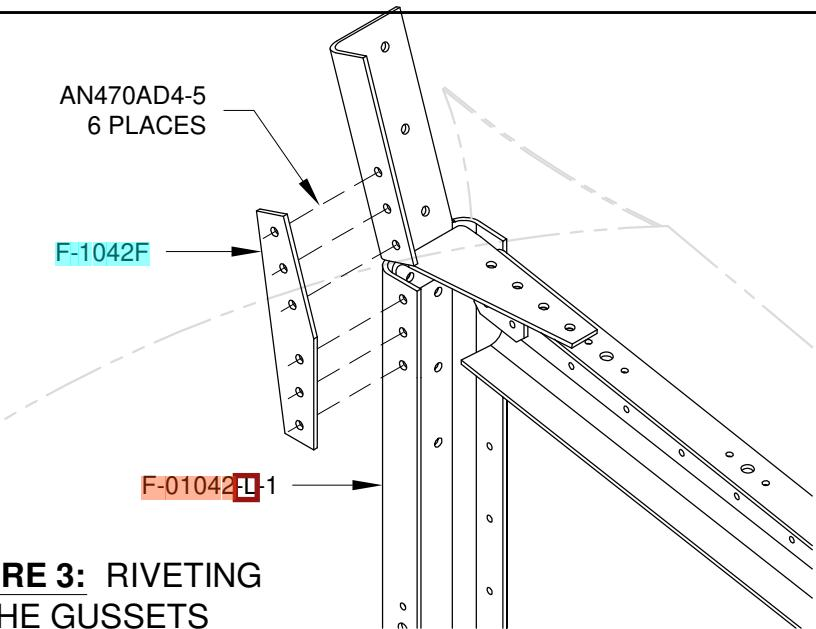

FIGURE 3: RIVETING THE GUSSETS
Step 4: Rivet the **F-1042F** Gussets to the **F-01042-1** Bulkhead Side Channels using the rivets called out in Figure 3.